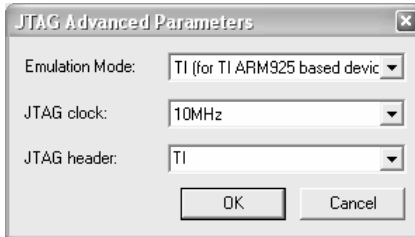

FIGURE 27 An example of selecting the emulation mode for Texas Instruments ARM925-based devices, such as OMAP1510, OMAP5910, OMAP710, OMAP310, or OMAP331.
- Click the Advanced Parameters button. Select ARM from the Emulation Mode drop-down list for all but TI ARM925-based processors. For the TI ARM925-based devices, like OMAP1510, OMAP5910, OMAP710, OMAP310, or OMAP331, choose TI Emulation Mode (Figure 27).